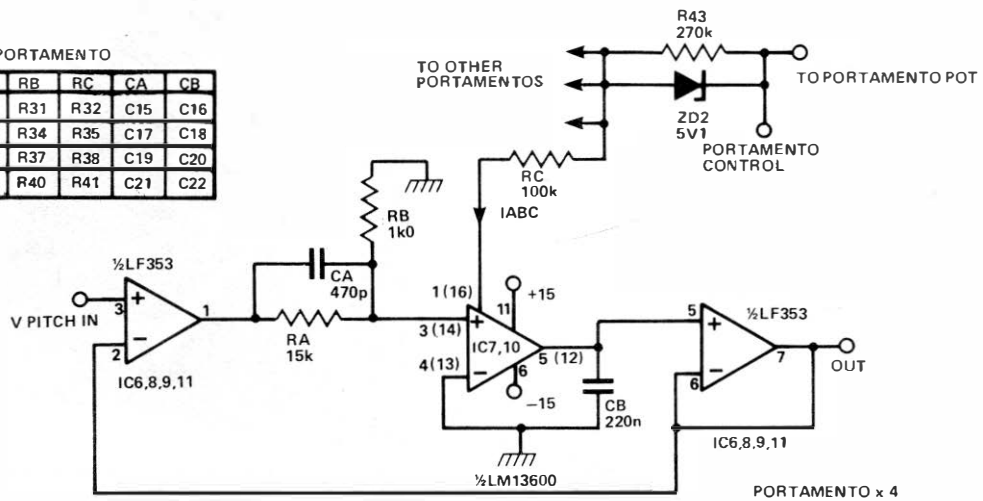

Fig.10 Motherboard portamento, master volume and pitch bend controls.
**P**olyphonic portamento has been provided by using a voltage controlled slew limiter for each pitch voltage (Fig. 10 p. 11, Fig. 12 p. 14). The slew rate is controlled by the  $I_{ABC}$  current and the timing capacitor  $C_B$ .
The audio outputs from all voices are mixed into IC13, Fig. 10. This is a voltage controlled amplifier. With the master volume control anticlockwise the output will be fully off.